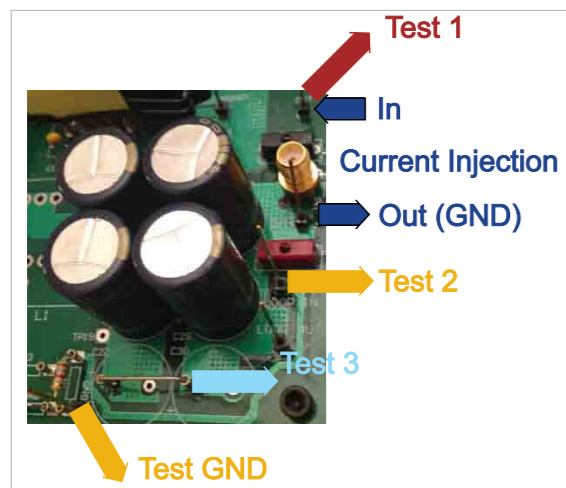

Figure 4: Different Test Points for the Output Voltage.
**Figure 4** shows multiple test points
There are very different loop results obtained when the test point for the output voltage is moved, even a seemingly insignificant amount. The red loop gain curve, which corresponds to the red test point in Figure 4, picks up the impedance of the test pin through which the injected current is driven. This is a relatively high impedance compared to the expected output impedance of the power supply, and the result is a very degraded estimate of the gain of the loop.